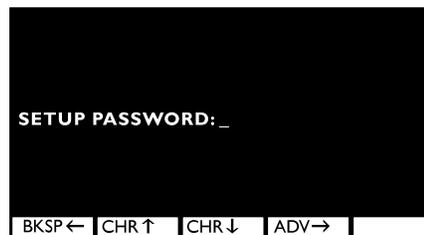

Figure 2
1. Press and hold the **ESCAPE** key until you hear a second beep. . . The display changes and asks for a password. It looks like Figure 2.